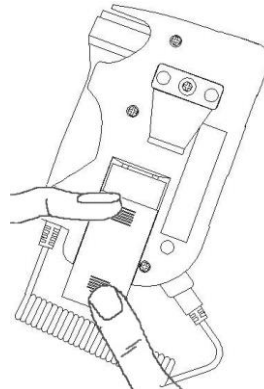

Figure 4-6
- 2) Press down the stripe symbols (that without arrowhead) with one thumb, at the same time slide the battery cover out along the direction of arrowhead with the other thumb (Figure 4-6);